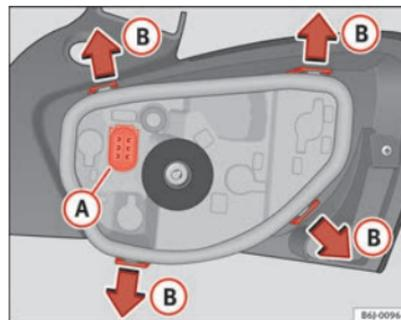

Fig. 162 Changing bulbs on tail lights
- Remove the bulb holder, separating it from the casing. To do this, press tabs (B) in the direction of the arrows ⇒ fig. 162. ▶